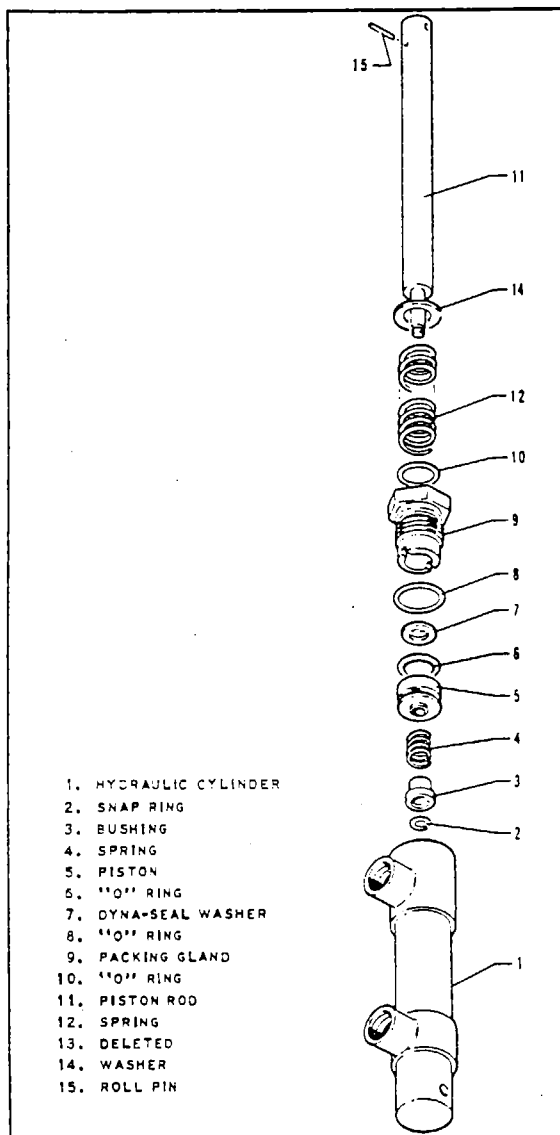
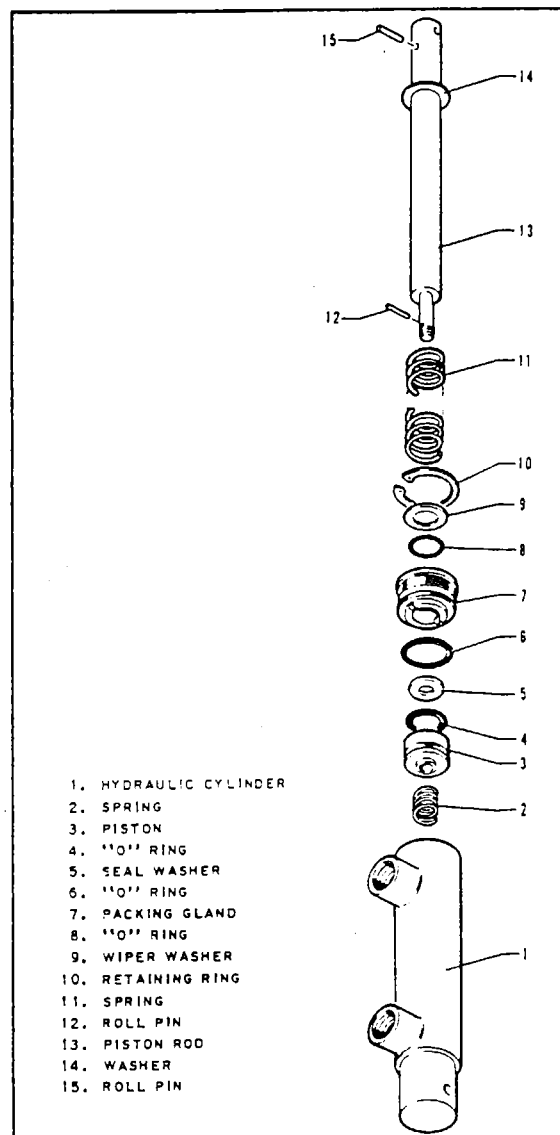
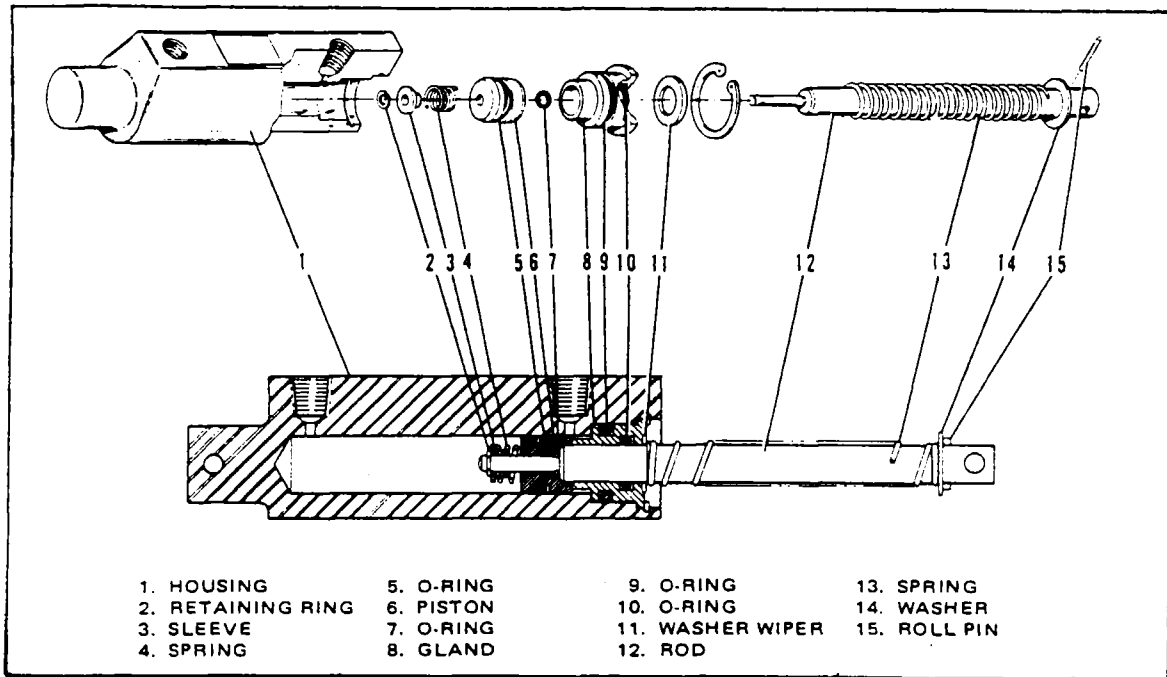
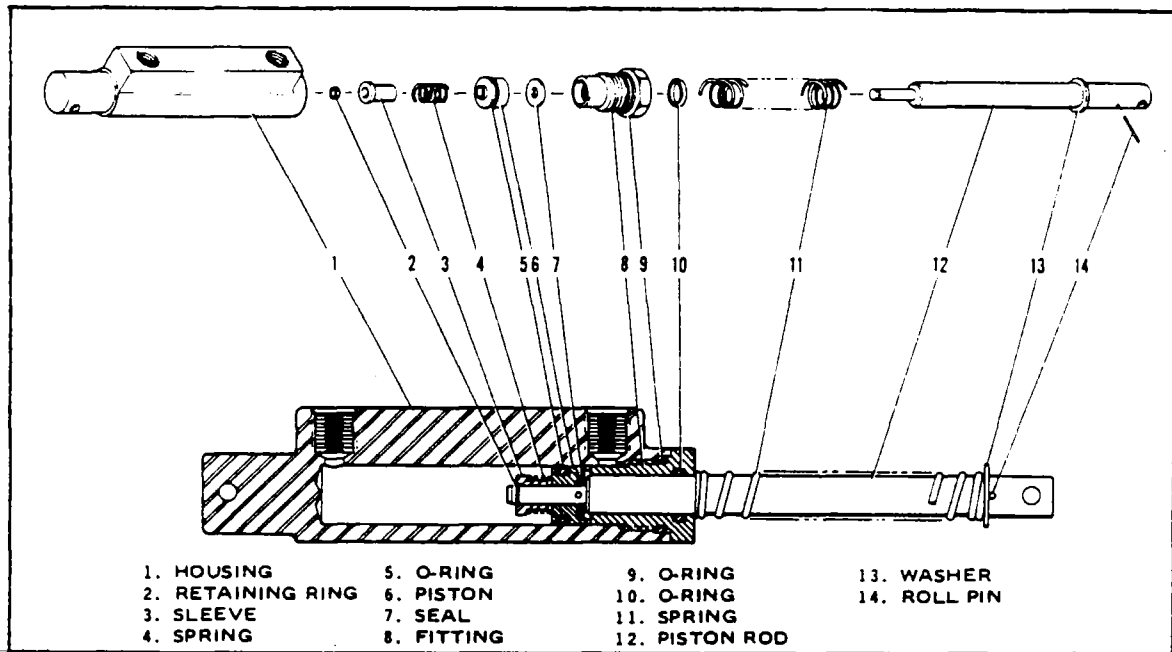

Figure 6-14. Brake Cylinder 10-20.
Figure 6-15. Brake Cylinder 10-27.
Figure 6-15a. Brake Cylinder
Figure 6-15b. Brake Cylinder
- a. Cleveland cylinder number 10-20. (Refer to Figure 6-14.)
2. To disassemble the cylinder, first remove the piston rod assembly by unscrewing the packing gland (9) from the cylinder.
3. The piston rod assembly may be disassembled by first removing the small snap ring (2) securing the retainer bushing (3) and then removing the bushing, spring (4), piston (5), seal (7), gland (9), and, if desired, the large return spring.
- b. Cleveland cylinder number 10-27. (Refer to Figure 6-15.)
2. To disassemble the cylinder, first remove the piston rod assembly by removing the snap ring (10) from the annular slot in the cylinder housing (1). Draw the piston rod assembly from the cylinder.
3. The piston rod assembly may be disassembled by first removing the roll pin (12) and then the piston assembly (3), seal (5), packing gland (7).
- c. Cleveland cylinder number 10-30. (Refer to Figure 6-15a.)
2. To disassemble the cylinder, first remove the piston rod assembly by removing the retaining ring from the annular slot in the cylinder housing (1). Draw the piston rod assembly from the cylinder.
3. The piston rod assembly may be disassembled by first removing the retaining ring (2), sleeve (3), spring (4), and then the piston and O-ring assembly (6), O-ring (7), and gland (8), and, if desired, the return spring (13).
- d. Gar-Kenyon cylinder number 17000. (Refer to Figure 6-15b.)
2. To disassemble the cylinder, first remove the piston rod assembly by unscrewing the fitting (8) from the cylinder.
3. The piston rod assembly may be disassembled by first removing the retaining ring (2) securing the sleeve (3) and then removing the spring (4), piston (6), seal (7), fitting (8), and, if desired, the large return spring (11).
1. Install new O-rings on the inside and outside of the packing gland (9) and on the outside of the piston (5).
2. To assemble the piston rod assembly, install on the rod (11), in order, the roll pin (15), return spring retainer washer (14), return spring (12), packing gland (9) with O-rings, seal (7), piston (5) with O-rings, spring (4) and retainer bushing (3). Secure these pieces with the small ring (2) on the end of the rod.
3. Insert the piston rod assembly in the cylinder (1) and secure packing (9).
1. Install new O-rings on the inside and outside of the packing gland (7) and on the outside of the piston (3).
2. To assemble the piston rod assembly, install on the rod (13), in order, the roll pin (15), washer (14), spring (11), washer (9), packing gland (7), seal (5), piston assembly (3), spring (2), and roll pin (12).
3. Insert the piston rod assembly in the cylinder (1) and secure with the snap ring (10).
2. To assemble the piston rod assembly, install on the rod (12), in order, the roll pin (15), washer (14), spring (13), washer (11), packing gland (8), with O-rings, seal (7), piston assembly (6) with O-ring, spring (4), sleeve (3), and retaining ring (2).
3. Insert the piston rod assembly in the cylinder (1) and secure with the retaining ring (10).
1. Install new O-rings on the inside and outside of the fitting (8) and on the outside of the piston (6).
2. To assemble the piston rod assembly, install on the rod (12), in order, the roll pin (14), return spring retainer washer (13), return spring (11), fitting (8) with O-rings, seal (7), piston (6) with O-ring, spring (4) and sleeve (3). Secure these pieces with the retaining ring (2) on the end of the rod.
3. Insert the piston rod assembly in the cylinder (1) and secure fitting (8).